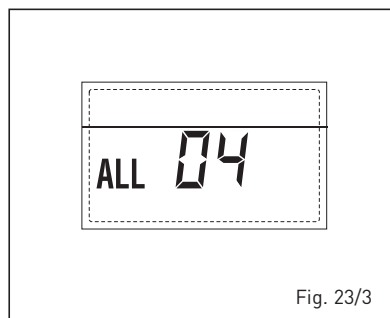

Fig. 23/3
**- C.H. FLOW SENSOR ANOMALY ALARM 05 (fig. 23/4)**